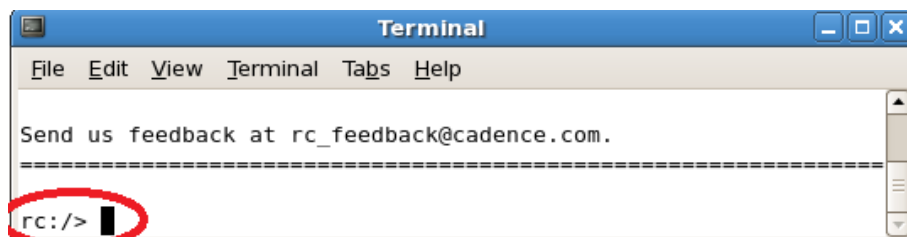

Figure 9 RC-shell Prompt
2. Type ***rc*** to launch the RTL Compiler. You should see the RC-shell prompt as shown in Figure 9.